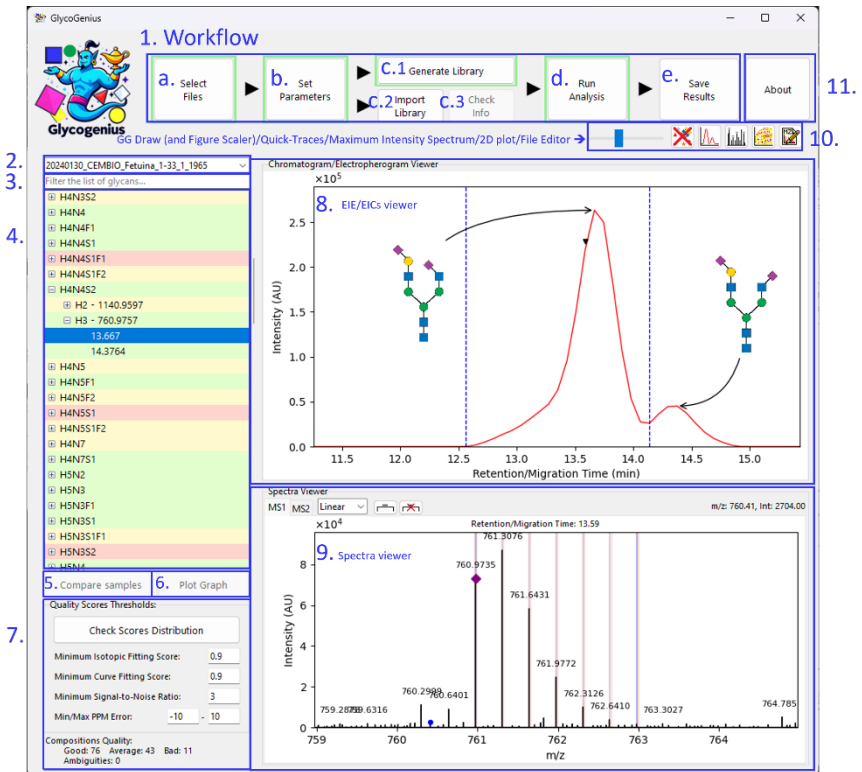

Fig. 1: Main window of GlycoGenius
3.1 The Main Window (Fig. 1)
8. **Chromatogram/Electropherogram:** displays the EIC/EIE of the glycan that has been selected on the left side (**Fig. 1, 4. Glycans/Chromatogram/Electropherogram list**). The EIC/EIE is fully interactive, that allows to zoom in using different methods and to select any retention/migration time (RT/MT) that is desired. Multiple EICs/EIEs can be plotted from the same sample by holding down the *Shift button* while selected the desired glycans. Using the arrows on the keyboard the user can navigate from left to right in the EIC/EIE.
9. **Spectra Viewer:** displays the MS1 (full Scan) spectrum for a specific RT/MT that is selected in the 8. *Chromatogram/Electropherogram window*. If the data contains MS2 data, precursors will be indicated with a purple diamond on top of the peak (See **Fig. 1**). To access the MS2 spectra, the user should click on the purple diamond and it will be displayed on the “MS2” pane. The y-axis can be scaled linearly (default), by the square-root or logarithmically. The user can measure distances between spectra peaks by using the ruler function, available at the buttons on top of the spectra viewer, besides the scaling drop-down menu.
- identified in the analyzed sample directly at the 8. **Chromatogram/Electropherogram Viewer** (See **Fig. 1**). When toggled on, it will check it will generate the glycan cartoons the first time you select a glycan on the identified glycans list (up to 2 minutes per glycan). Subsequent times you select the glycans, it will be instantaneous. Once the glycans are drawn, you can drag them around, scale them using the slider besides the GG Draw button and you can double-click them to access a glycan cartoon browser where the user can choose from a variety of different structures for a given composition, with filtering options for glycans classes, branching numbers and other features. **The first composition drawn is chosen randomly from glycans within the class analyzed;**